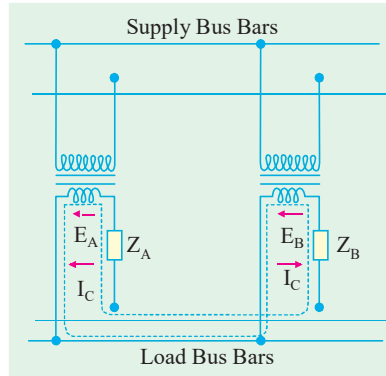

Fig. 32.75
**Solution.** The circuit connections are shown in Fig. 32.75.